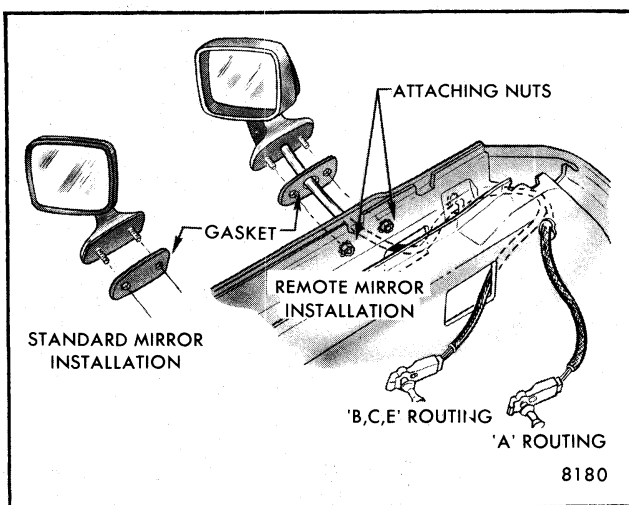

Fig. 5-96-Door Outside Mirror - Typical All "A, B, C, E and H-07-27" Styles - Left Side
1. Remove door trim assembly ("H-07, 27" styles), or upper portion of door trim assembly ("A, B, C, E" Styles) as described in "Door Trim" portion of this section. Then detach remote cable from retaining tab on outer panel belt reinforcement (Fig. 5-96).
2. Remove mirror base to door outer panel stud nuts (Fig. 5-96) and remove mirror and cable assembly from door.
3. Remove mirror base to door outer panel stud nuts similar to left hand side (Fig. 5-96) and remove mirror and cable assembly from door.
2. Remove mirror base to door outer panel stud nuts (Fig. 5-96) and remove mirror from door.